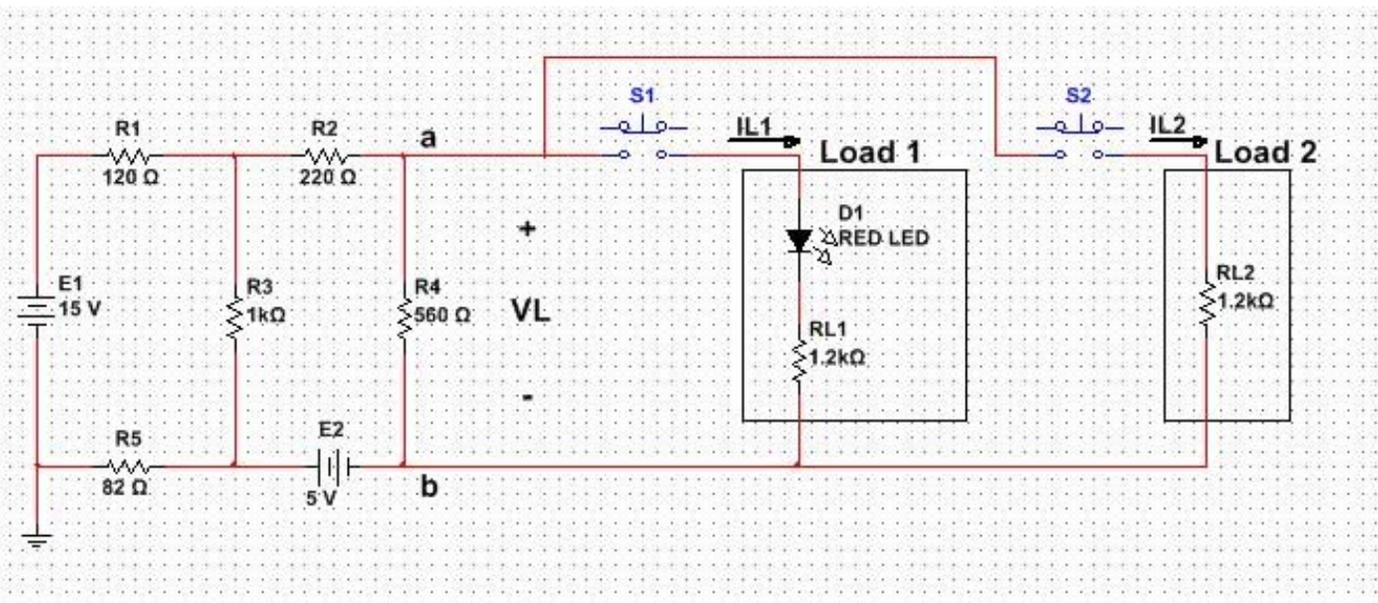

Figure 1 - Original Circuit with Two Loads Shown (PCB)
1. Determine the Thevenin Equivalent circuit seen by the load (looking into terminals a-b) for the circuit shown in Figure 1. R4 is part of the circuit, not the load.
4. Using Multisim, simulate the circuit shown in Figure 1 for each load connection and determine V_L , I_L and P_L for each case.
1. Design a PCB in the ExpressPCB program using the following constraints and information to implement the circuit shown in Figure 1:
- a. Note that the left-hand side of this PCB contains the circuitry shown in Figure 1 and is very similar to the board you designed during week 1.